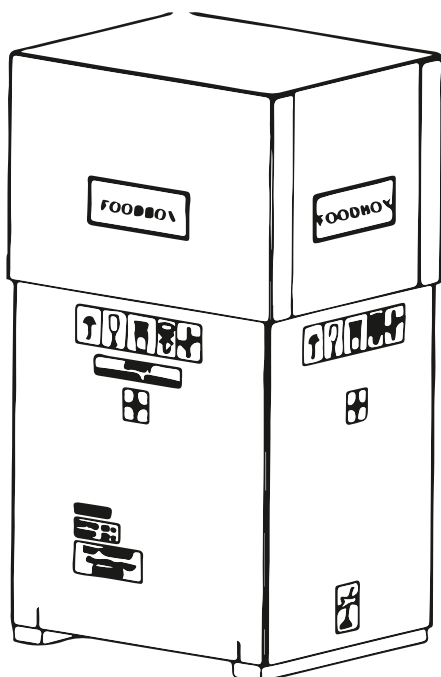

Fig.19 - Unpacking the Machine
- Remove the transport packing and remove all packing materials from the Machine (see figure 19);
3. Using S=10mm wrench (spanner) remove the fixing bolts and remove the wooden pegs (see figure 19). The bolts with nuts and pegs should be placed in the bag along with the storage packing;